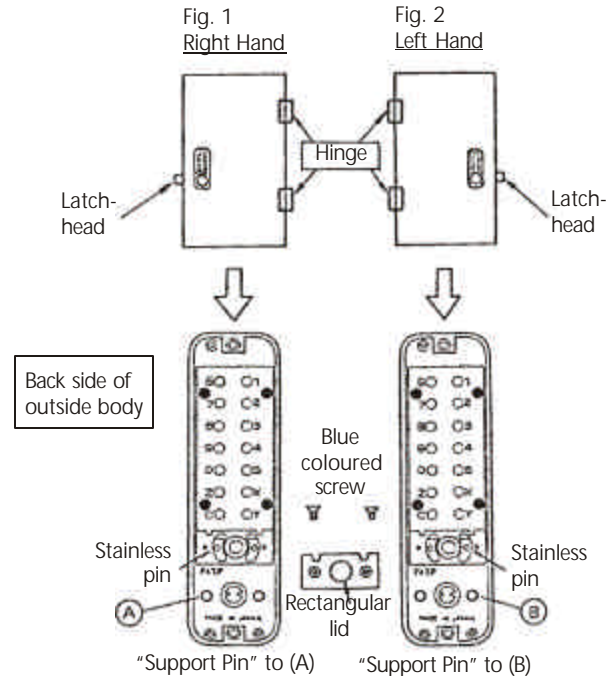

Fig. 3
- f. Mark the hole center for a small hole (8 mm) and for a large hole (36 mm) on the surface of the door. And also mark the hole center of 1 slot for the Latchbolt Unit at the center of the door edge through the template (Refer Fig. 3).